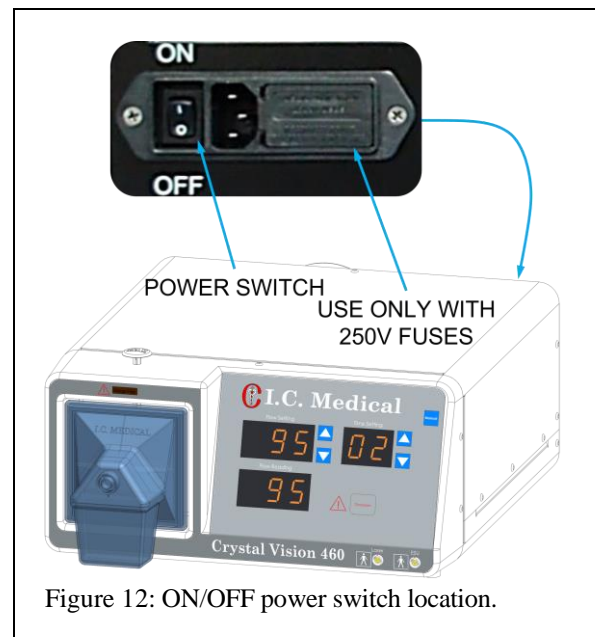

Figure 12: ON/OFF power switch location.
1. ON/OFF SWITCH is located on the back panel (Figure 12) next to the power cord. This switch controls the power to the CRYSTAL VISION®. International symbols are used. The [I] symbol indicates power "ON" and [O] indicates "OFF." This switch also controls the cooling fan.